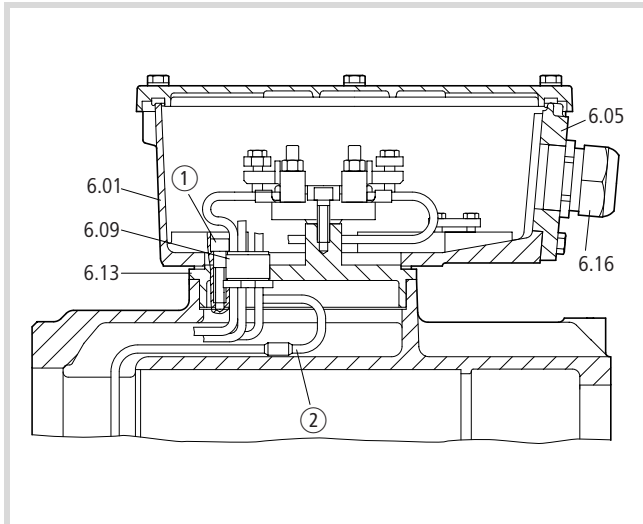

Figure 14: Removing the terminal box from the bushing plate
- ▶ Undo the fastening screws ① (→ Fig. 14).
Proceed as follows to disconnect the stator winding of motors with moulded core bushings (→ Fig. 14):